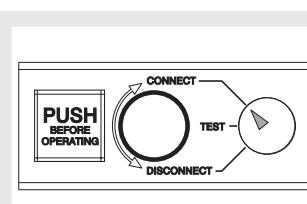

Figure 52
- circuit-breaker in CONNECT position (see Figure 52)